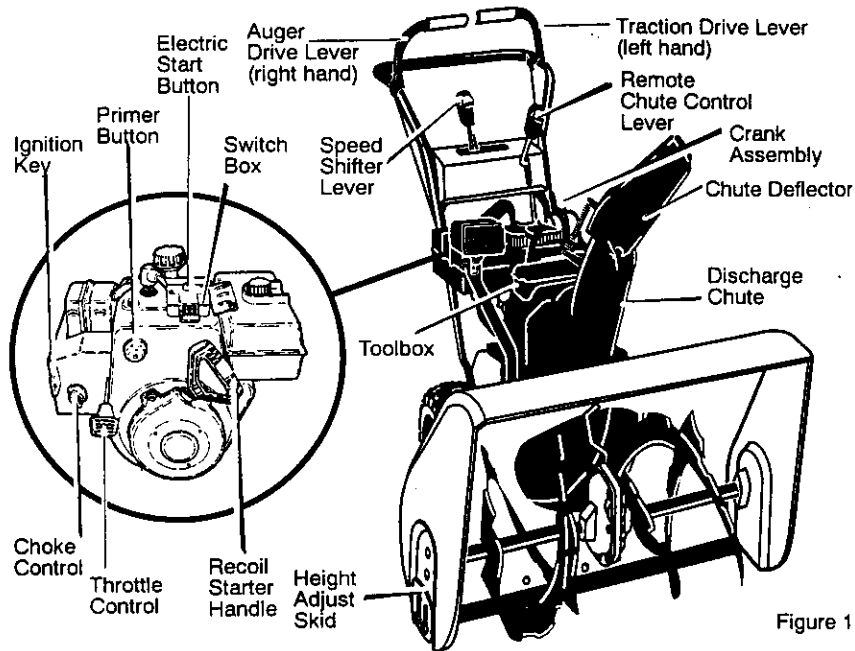

Figure 14
1. To stop throwing snow, release the **auger drive lever**. See Figure 14.